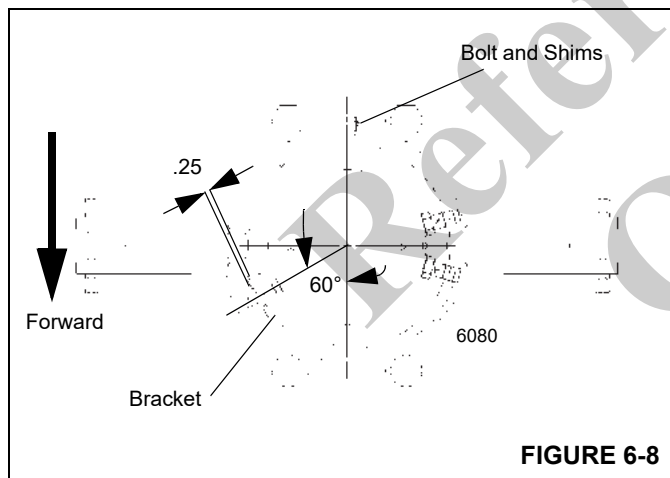

FIGURE 6-8
- Ensure the threaded hole on the bottom of the electrical swivel base is aligned with the mounting hole in the bracket on the water swivel case. Install the bolt through the hole in the bracket and install the nut. Screw the bolt into the hole in the electrical swivel base until the bolt head is approximately 0.25 in (6.4 mm) from the bracket. Tighten the nut against the electrical swivel (Figure 6-8).